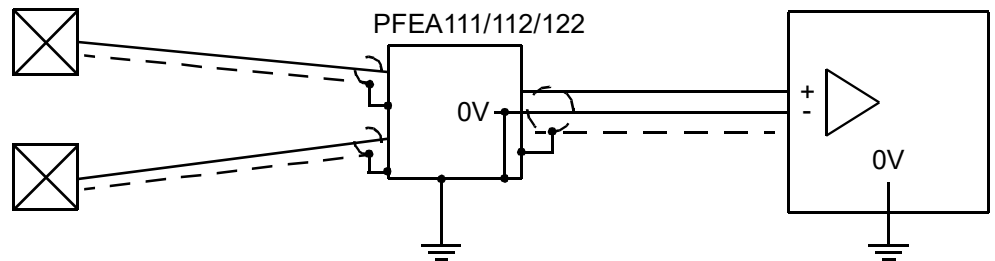
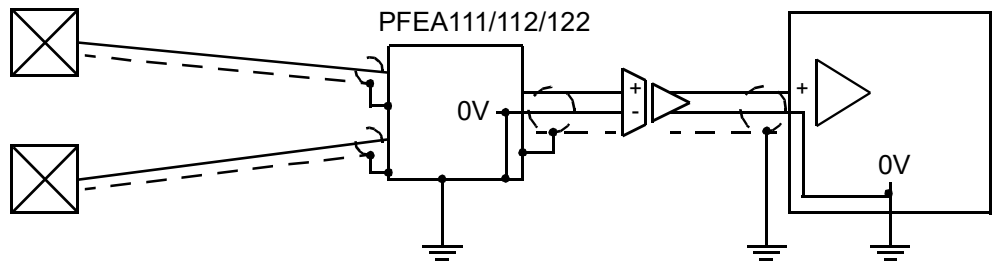

Figure 2-8. Connection to a superior system with an insulated or differential input
Figure 2-9. Connection to a superior system through a separate insulation amplifier
- Since the signal earth of the measurement system is connected to the chassis earth of the tension electronics, the input of a superior system connected to the control system must not be earthed. The best ways of interconnecting the measurement system and a superior system to achieve optimal function are shown in Figure 2-8 and Figure 2-9.